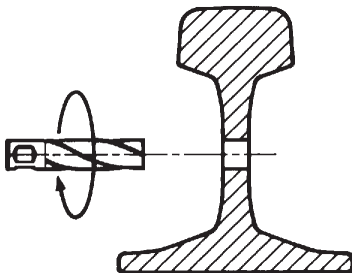

FIG. 2a
- Check the size of the hole with the **CAL 22.23** "GO/NO GO" gauge (Fig. 2a):